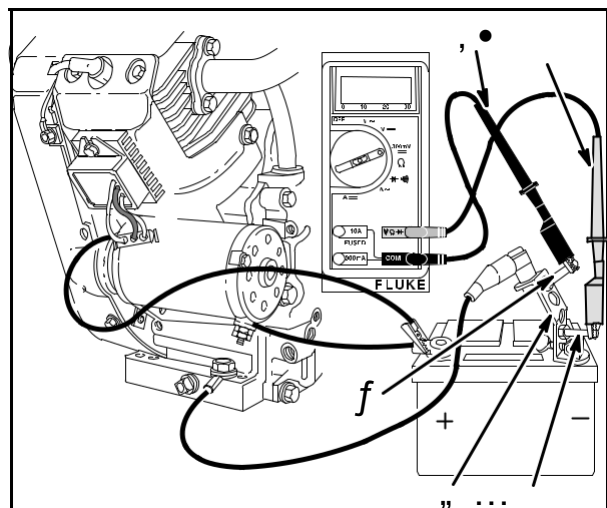

Fig. 32
The DC Shunt **must** be installed on the **NEGATIVE (-)** terminal of the battery, **Fig. 32** to avoid blowing the fuse in the meter when testing the output of the 20 amp system. All connections must be clean and tight for correct readings.
Insert RED test lead into **VW** receptacle in meter and connect to RED post terminal on shunt (5), **Fig. 32**.